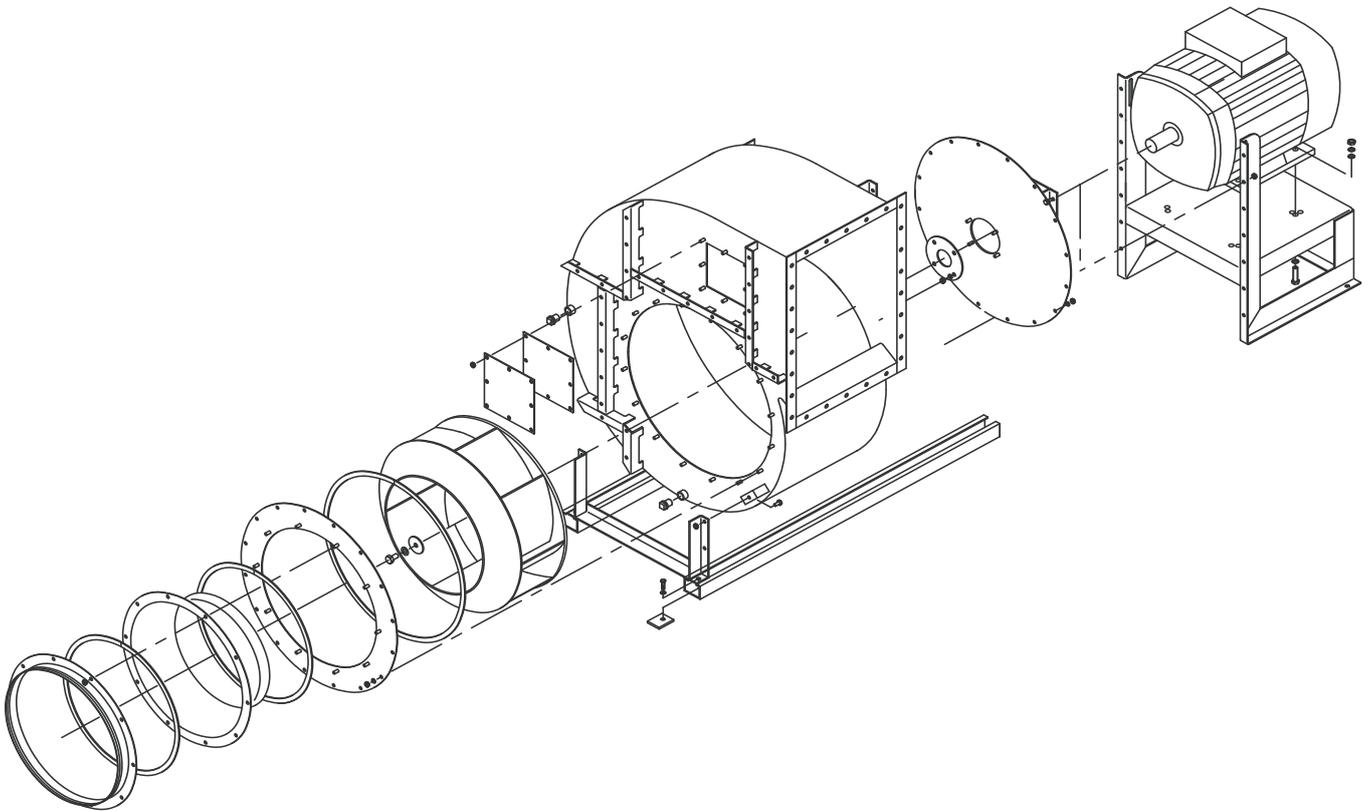

Fig. 4
Fig. 4. First, dismantle the duct from the fan inlet side. Then remove duct connection (pos. 1), inlet cone (pos. 3) and intermediary flange (pos. 5) by loosening and unscrewing the nuts (pos. 6). Then remove the screw (pos. 12) and motor disc (pos. 10) holding the impeller. Detach the impeller using a puller secured in the two threaded puller holes in the impeller hub.
Fig. 4. Place the impeller (pos. 9) on the shaft, mount pos. 10-12, and tighten the screw (pos. 12). Mount duct connection (pos. 1), inlet cone (pos. 3) and intermediary flange (pos. 5). Remember to check that the distance between inlet cone (pos. 3) and impeller (pos. 9) is equally large everywhere, and that the seal (pos. 8) still is elastic. Finish by tightening screws (pos. 6).